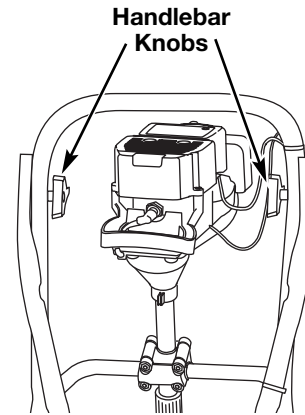

Fig. 19
2. Release the throttle control and let the engine idle. If the engine stops, insert a small phillips or flat blade screwdriver into the hole in the muffler cover (Fig. 19). Turn the idle speed screw **clockwise** 1/8 of a turn at a time (as needed) until the engine idles smoothly.
3. Fold the handlebars down as shown (Fig. 19). Tighten the knobs.
4. Either carry the unit by the shaft tube grip or grasp the center of the handlebar to use it as a carrying handle (Fig. (20).